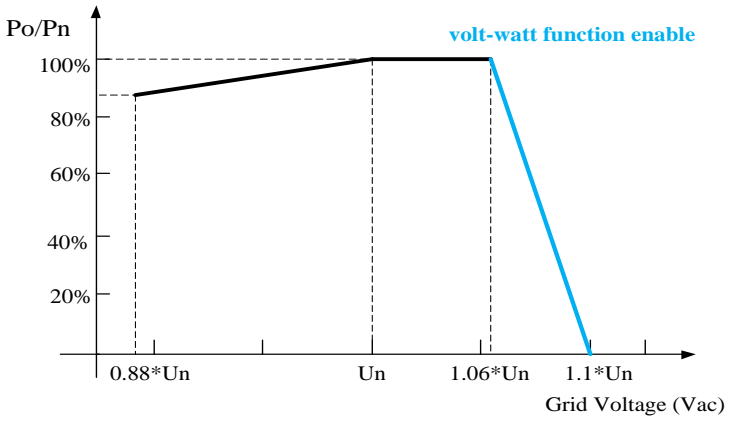

Figure 10-3-2 SCA25/50/60KTL-DO/US Derating Curve of Grid Voltage
2) When volt-watt function enable, the grid voltage is within 100%~106% ($U_n \sim 1.06*U_n$) of the Rated Output Voltage, the inverter output power (P_n) may reach 100%. When the grid voltage is lower than the Rated Output Voltage or more than 106% U_n , the inverter will limit the AC Output Current and the output power (P_n) will begin to derate, shown in Figure 10-3-2.